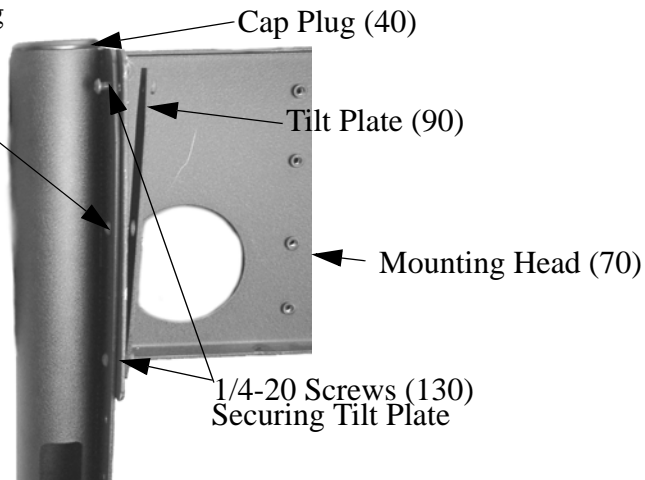

Figure 4. Install Mounting Head
- d. Install cap plugs (40) on top of left leg (110) and right leg (120). See Figure 4.
4. Using two 1/4-20 x 5/8” button head screws (130), one on each side, secure the mounting head (70) to the top of the legs (110 and 120) of the cart (see Figure 4).
5. Using four 1/4-20 x 5/8” button head screws (130), (two on each side), secure two tilt head spreaders (90), one per side (see Figure 4).